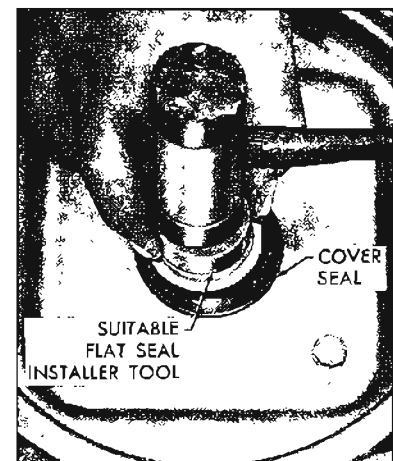

Figure 9-30—Installing Cover Seal
1. Lubricate the cover seal with silicone grease and install it in the housing cover by pressing it down using a flat plate as shown in Figure 9-30.